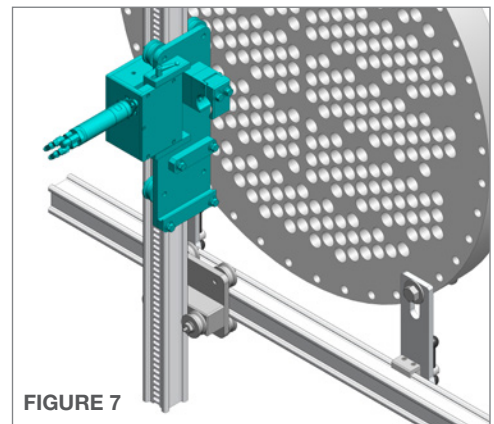

FIGURE 7
7. Loosen the **Quick Adjust Handle** and pull the gearbox away from the carriage plate. This will allow the **Vertical Drive Carriage** to slide onto the rail without pneumatic power to rotate the drive. Center the carriage on the vertical rail and push the gearbox back toward the carriage plate. This will engage the gear into the rail slots. Verify the gear is engaging the slots correctly and tighten the quick adjust handle. **(Figure 7)**